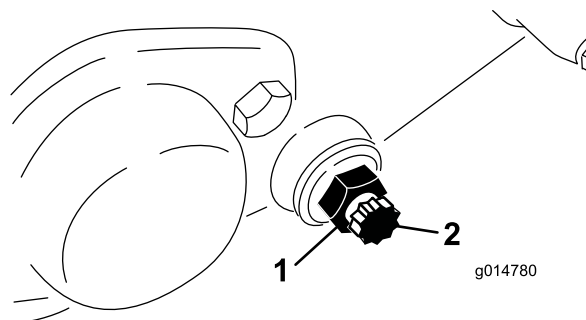

Figure 56
4. Remove each bedbar bolt allowing the bedbar to be pulled downward and removed from the machine. Save the 2 nylon and 2 stamped steel washers on each end of the bedbar (Figure 56).
3. On each side of the machine loosen the jam nut securing the bedbar bolt (Figure 56).